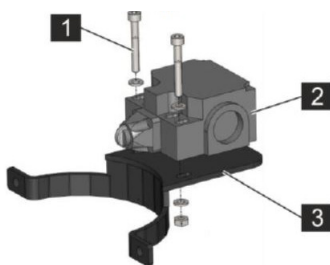

Figure 2
1. Install switch (Fig. 2/2) at the support (Fig. 2/3) using screws (Fig. 2/1), washers (4 pcs) and nuts (do not tighten at this point).